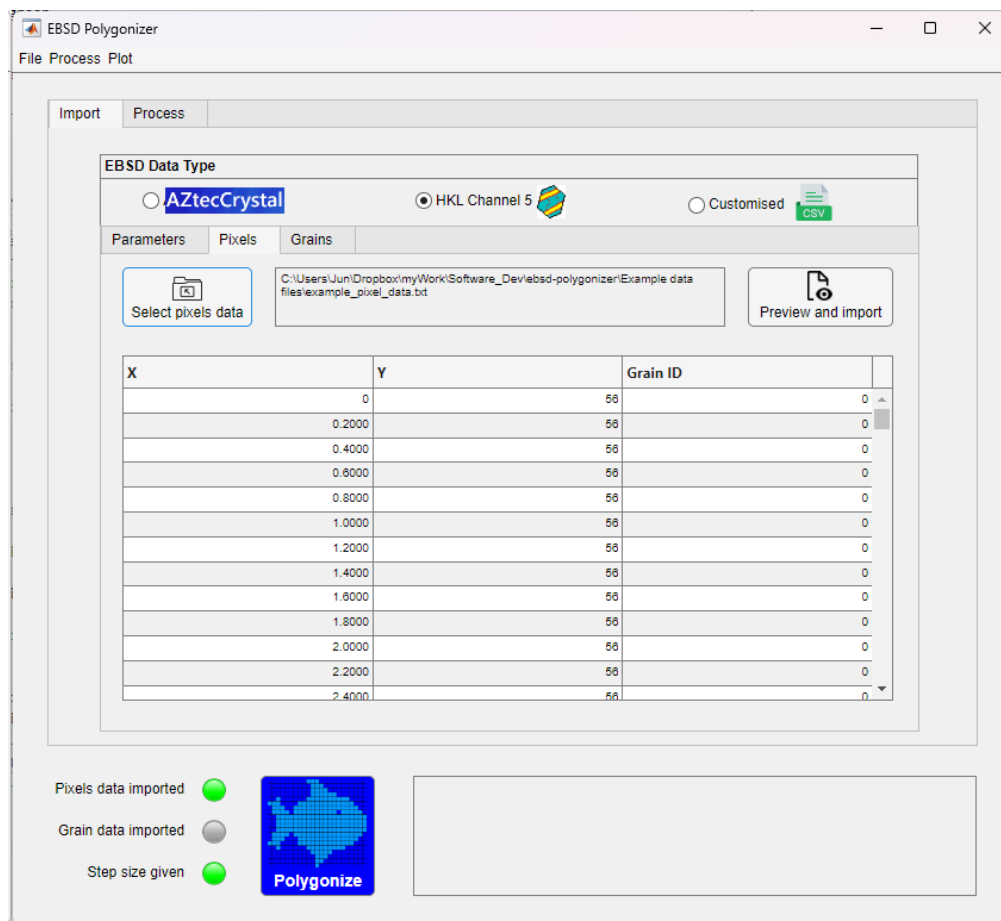

Figure 1.5: Import pixel data
5. Click on **Select pixels data** button to select the pixel file and import. Alternatively, input the file path in the text box next to the button. Click on **Preview and Import** button to import the pixel data. Make sure the **Pixels data imported** indicator turns green. See Figure 1.5.